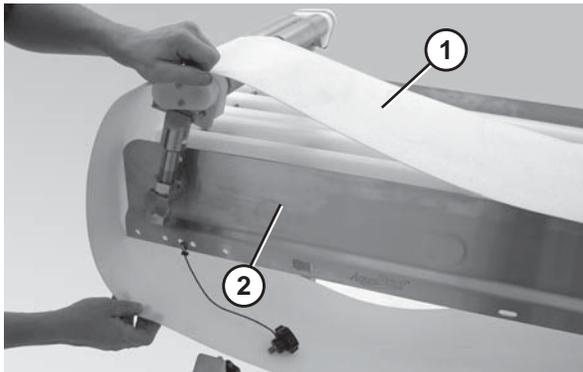

Figure 50
- Slide the old belt (Figure 50, item 1) off the conveyor frame (Figure 50, item 2).